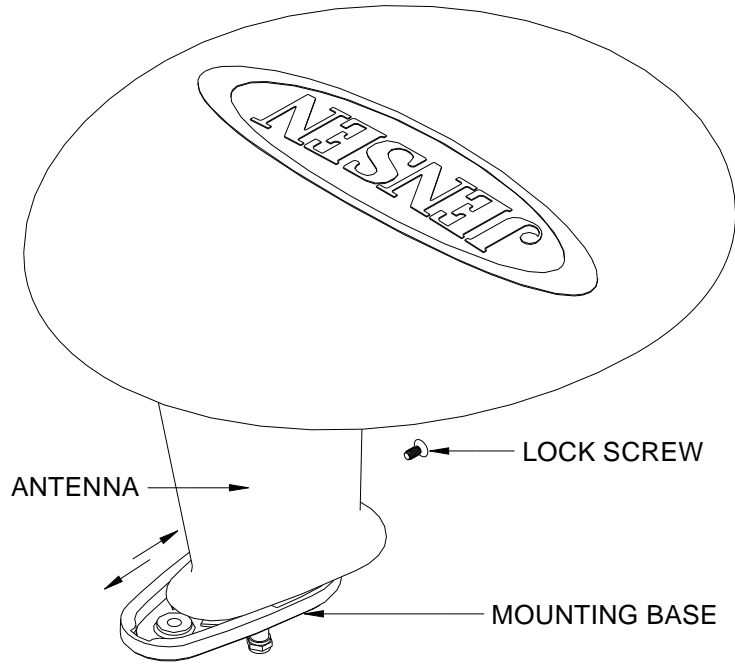

FIGURE 2
- Remove metal base from plastic housing by removing the lock screw and sliding the base away from the plastic stalk. Mark hole locations on roof. Drill 5/8" hole for the coax cable. Pre-drill the 3 mounting screws holes with a 1/8" bit. Route RG6 Coax from wall plate through hole. See Figures 2, 3, & 4.